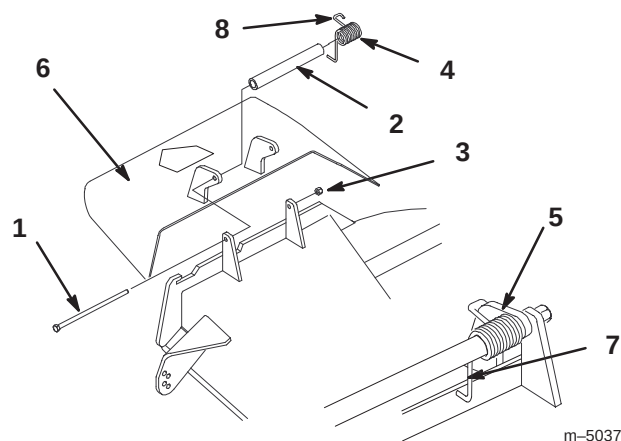

Figure 63
1. Remove the locknut, bolt, spring and spacer holding the deflector to the pivot brackets (Fig. 63). Remove damaged or worn grass deflector.
Note: Make sure the L end of spring is installed behind deck edge before installing the bolt as shown in figure 63.
3. Install bolt and nut. Place J hook end of spring around grass deflector (Fig. 63).